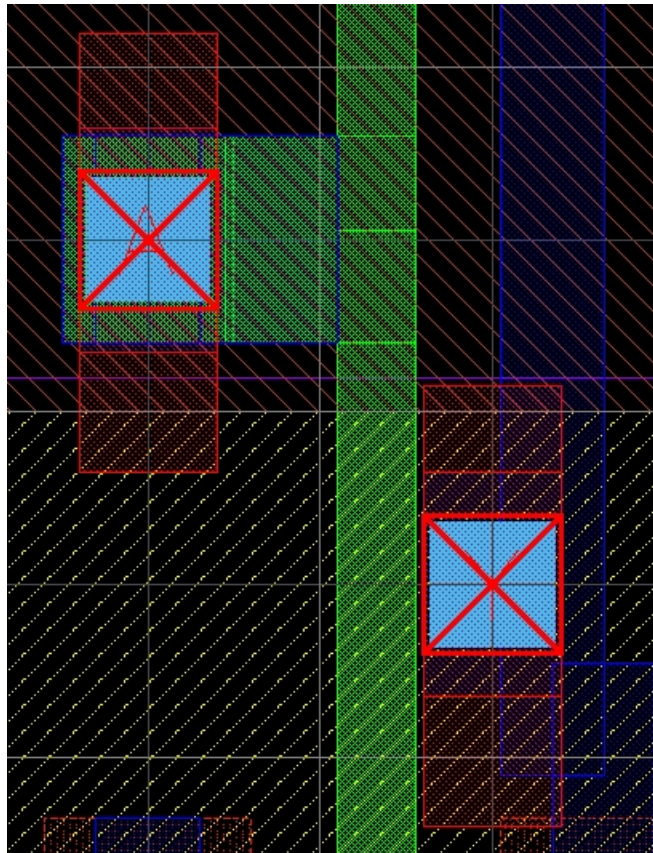

Figure 14: I/O pin placement
- Take a look at Figure 14, which shows the placed I/O pin along with other polygons needed for passing DRC. Did you notice the light blue polygon underneath the I/O pins? Those are called vias, and we use them to connect objects of different layers.
- For the output pin Y, you will create a via connecting Metal1 to Metal2 (drw layers) underneath the pin as shown in Figure 14
Again, Figure 14 shows the placed pin along with via and the needed polygons surrounding the pins (please seek for helps from TA if there is any confusion here).